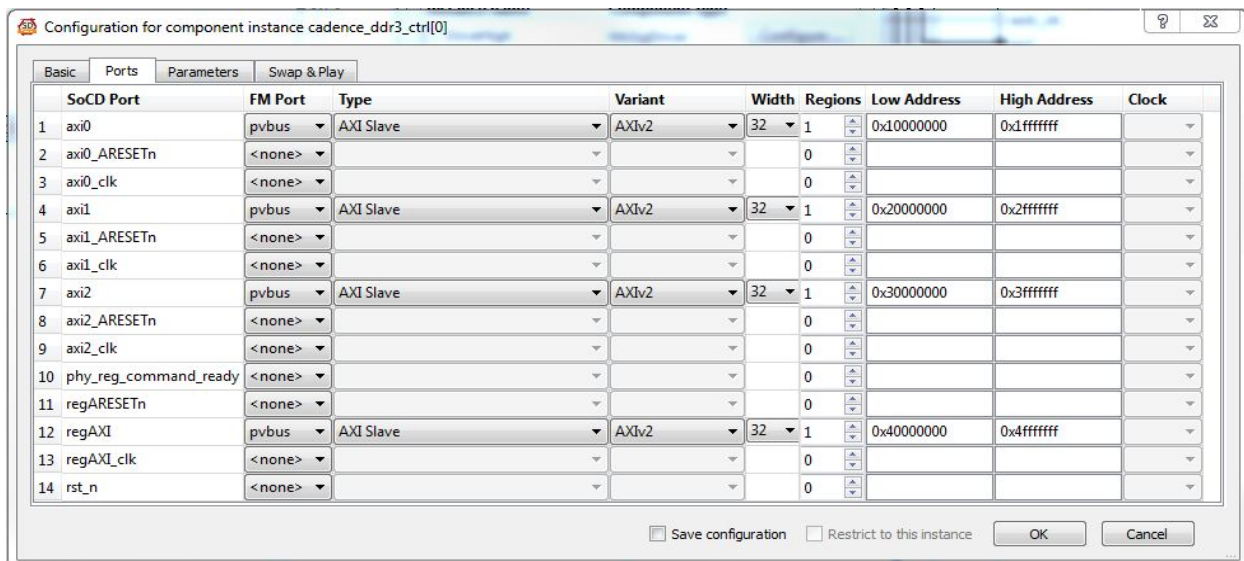

Figure 4-9 Fast Models Component Configuration dialog: Ports tab
Figure 4-9 shows the Ports tab of the Fast Models Component Configuration dialog.
1. On the Ports tab (Figure 4-9), select the appropriate protocol type from the Type pulldown list. The list of protocols is restricted to the set (signal or transaction) that is valid for the Fast Models port type.
On the Ports tab (see Figure 4-9), select the width you want from the Width pulldown list. The list of available widths is restricted to those that are valid for the port.
1. On the Ports tab (see Figure 4-9), click in the Low Address field and enter the new value.